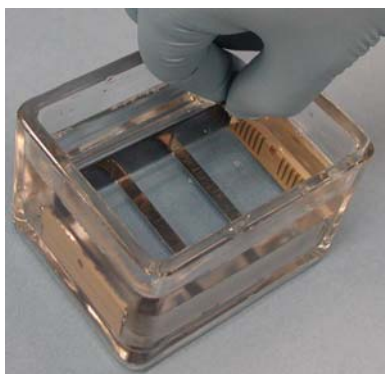

Figure 45 *Placing BeadChips in Wash Dish Containing WB1*
5. Carefully slide each BeadChip into the wash rack, making sure that it is completely submerged in the WB1 (Figure 45).